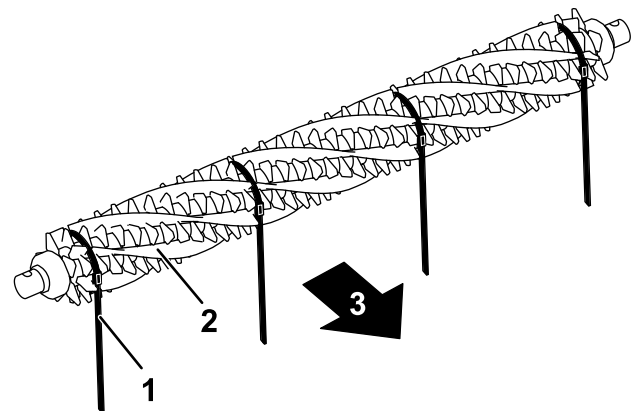

Figure 16
3. From 1 side of the groomer reel, slide a brush into each groove around the full length of the groomer reel (Figure 16).
Important: You must wrap the straps around the groomer blade and brush assembly in the primary rotating direction. Figure 16 shows the straps installed for forward rotation.